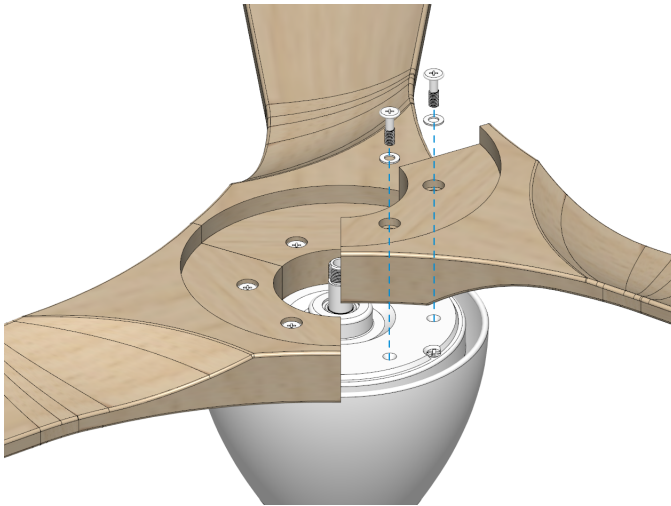

Fig. 2.1
2.1 Locate the 6 blade attachment screws and washers included in the hardware pack. Use these screws and washers to firmly attach each blade to the motor hub, as demonstrated in Fig. 2.1.